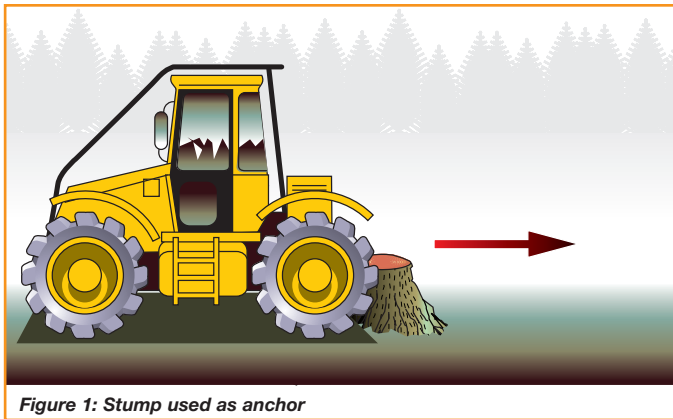

Figure 1: Stump used as anchor
- ❑ 15 Tree stumps or anchors used to secure the winch must be of adequate strength and reinforced where necessary (see Figure 1).